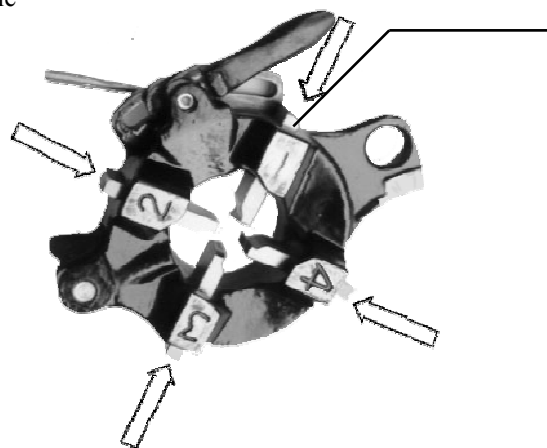

Fig. 2
3. Put the selected screwing dies into die grooves according to their sequential numbers, turn the curved disk, then adjust the scratch of the thread to that of the support disk. Tighten the hand screw, then the screwing die is fixed.(see Fig.2)